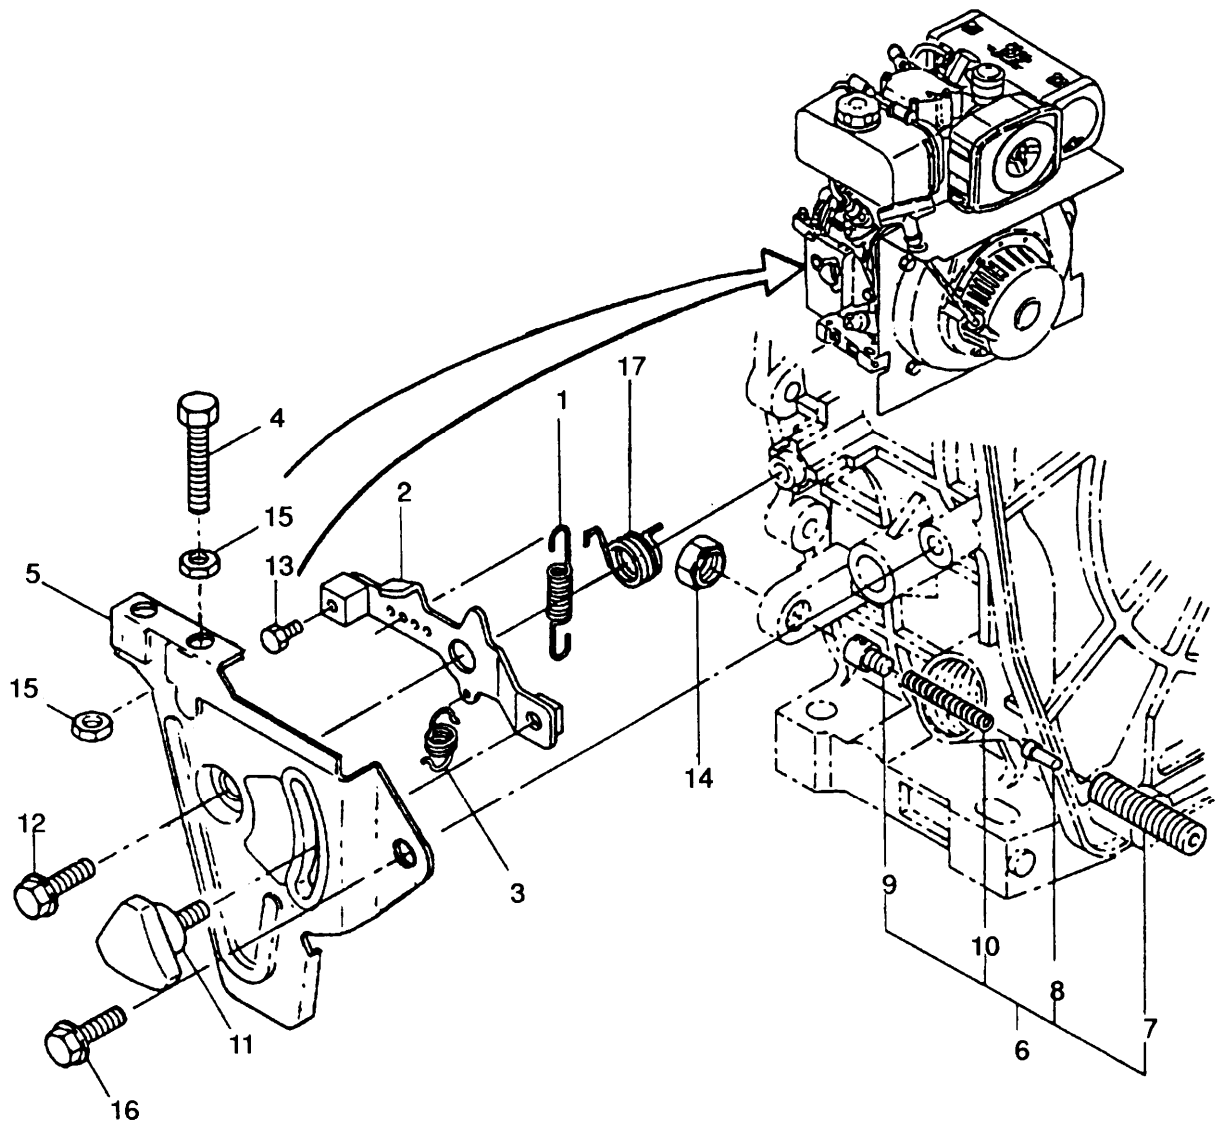
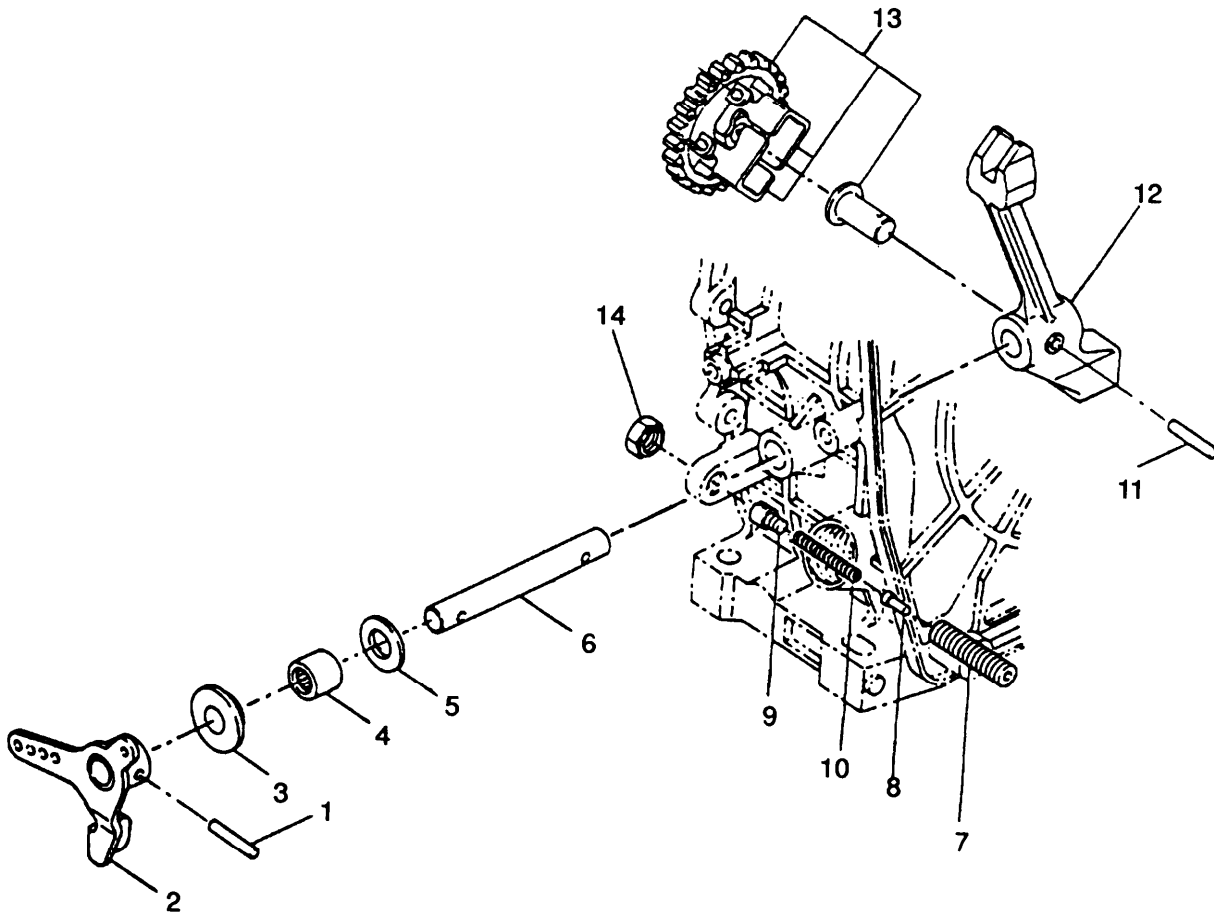

Figure 5-26. Speed Control Device Assembly
Figure 5-27. Governor Assembly
a. **Governor Assembly (Refer to Figure 5-27)**
- (1) Install needle bearing (4) into cylinder block.
- (2) Insert shaft (6) into governor control arm (12) and lock into position with taper pin (11).
- (3) Install governor control arm (12), shaft (6), and washer (5) into needle bearing in engine from the inside.
- (4) Insert thrust bushing (3) onto shaft (6) in cylinder block.
- (5) Install control arm lever (2) onto shaft (6) and insert taper pin (1) into shaft.
b. **Speed Control Device (Refer to Figure 5-26)**
- (1) Install regulator coil spring (17).
- (2) Mount regulator handle (2) to regulator bracket (5) using the handle locking nut (11).
- (3) Mount regulator bracket assembly (5) with regulator handle (2) attached by installing two (2) mounting bolts (12 and 16).